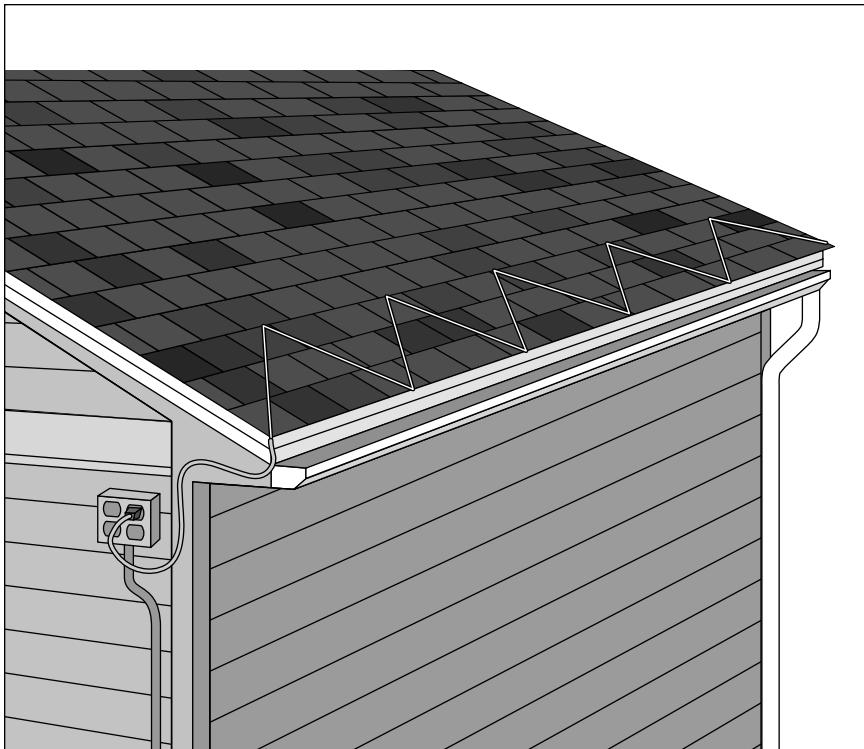

Figure 5-4:
- ✓ **Consider installing an eave-heating device such as heating tape or heating wire (see Figure 5-4).** These devices prevent water from freezing on your eave.